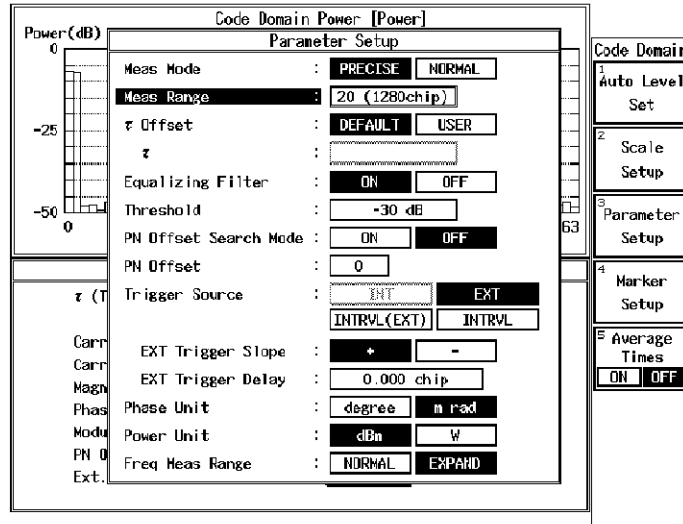

Figure 6-7 Setting of Measurement Parameter for Code Domain Power Test
6. On the R3267 Series, set the measurement parameter as shown in Figure 6-7.